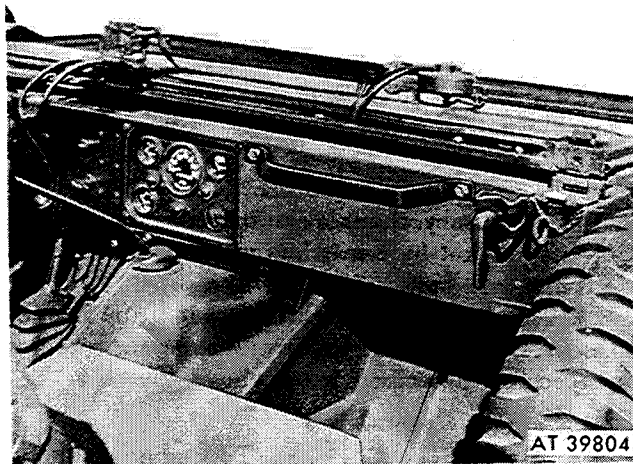

Figure 2-398. Remove safety bar.
**b. Replacement.** The safety handle bar is secured to the dash panel with two hexagon head cap-screws, two nuts, two washers, and two backing plates (fig. 2-398).